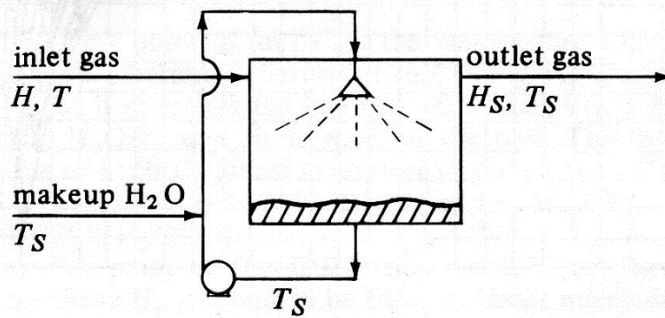

FIGURE 9.3-3. *Adiabatic air–water vapor saturator.*
- a) (Max 4 p) See text book Figures 9.3-3 and 9.3-4 (attached page)